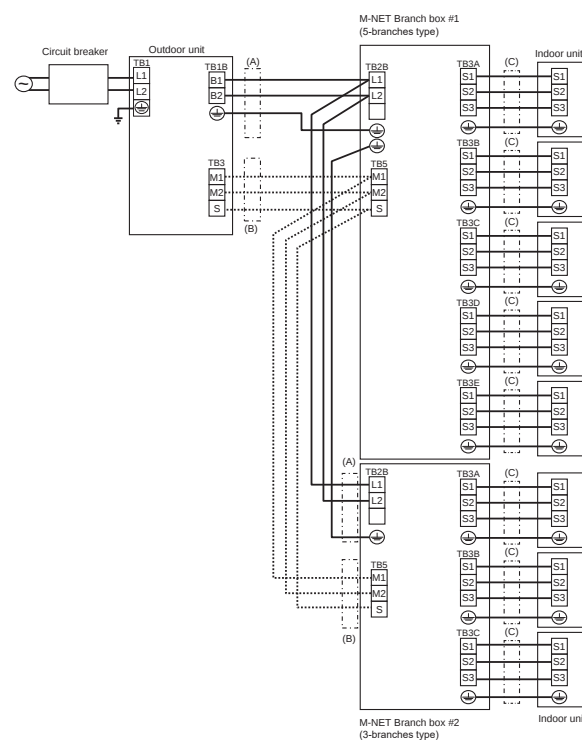

Fig. 8-9
- Firmly connect each wire to the appropriate terminal block. (Fig. 8-9)
8.4. External wiring procedure (Fig. 8-9)